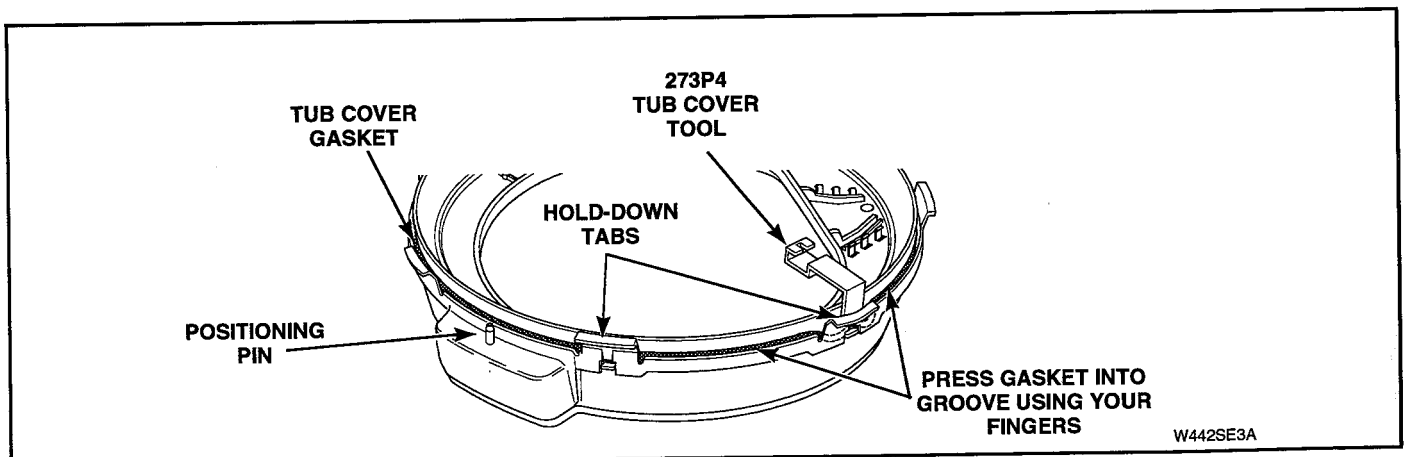

Figure 5-27
- Starting at positioning pin located at the bleach funnel area, lay gasket into gasket groove of tub cover. See Figure 5-27.
- Install gasket past ends of hold-down tabs to bottom of gasket groove using semi-circled end of tool Part No. 273P4. See Figure 5-27.
3. Starting at the positioning pin located at the bleach funnel area, lay gasket into gasket groove of tub cover. See Figure 5-27.